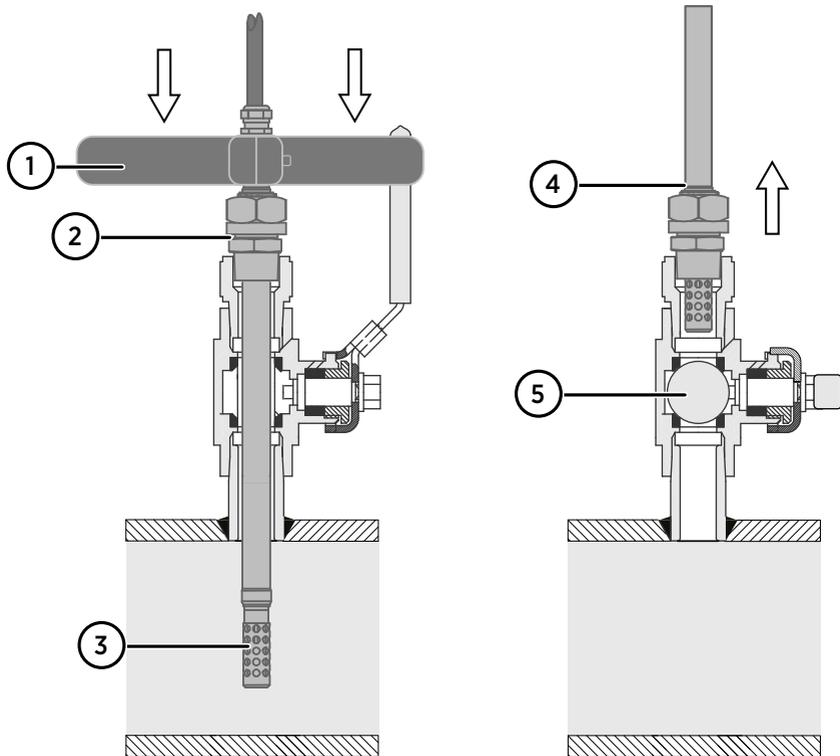

Figure 31 Inserting HMP378 into process with ball valve kit
10. If you wish to remove the probe from the process, note that you have to pull the probe out far enough for the valve to have room to close. You cannot close the valve if the groove on the probe body is not visible (see Figure 31 \(page 77\)).